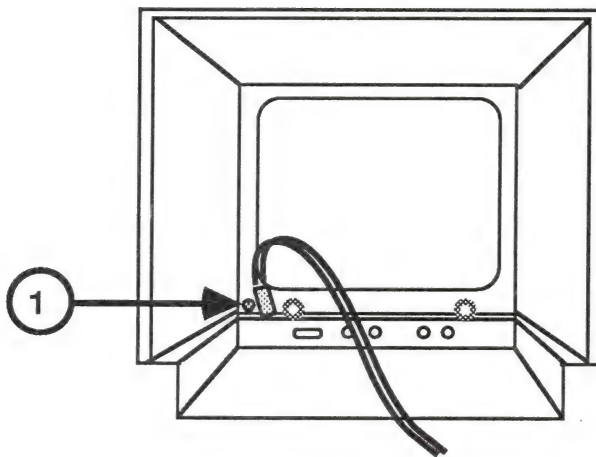

FIGURE 33
6. Remove the screw (Figure 33, #1) that secures the plastic bracket of the LED assembly to the front bezel.
1. Replace the screw (Figure 33, #1) that holds the LED assembly in place inside the front bezel.